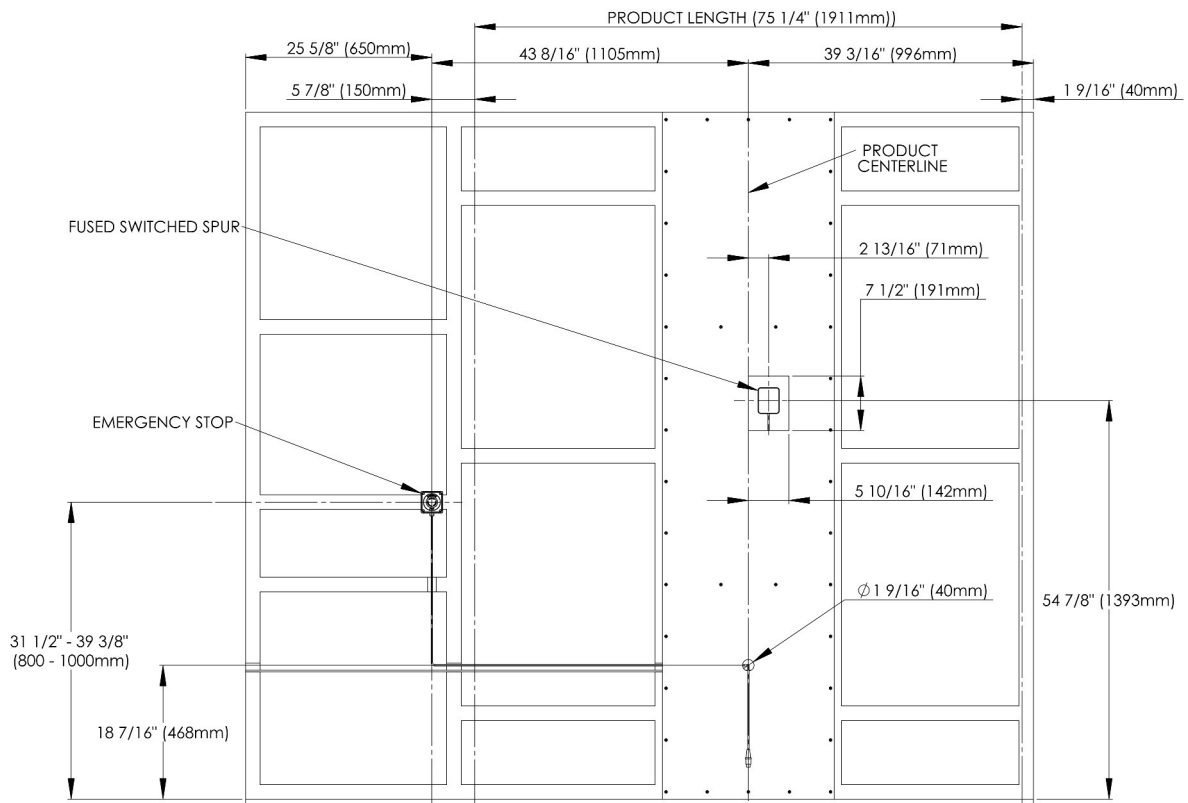

Fig 11.2 Emergency stop & switch, waterproof, flex outlet
- The provided emergency stop must be fitted at the position shown in Fig 11.2.
- Provision needs to be made to allow the cable to be traced in through the wooden frame and remain hidden behind the dry wall/plasterboard. At least 11 13/16" (300 mm) of cable should come through the marine plywood at the position shown in Fig 11.2.
- A switched, waterproof flex outlet is required for hard wiring the product. This outlet must be located in the position shown in Fig 11.2. The outlet cannot be any larger than 7 1/2" (191 mm) tall or 5 5/8" (142 mm) wide and must be flush or subflush to the level of the marine plywood once fitted.
- The Emergency Stop has been fitted at the position shown in Fig 11.2. The cable has been hidden in the wall and at least 11 13/16" (300 mm) of cable is coming out of the wall.
- The switched, waterproof flex outlet has been fitted in the position shown in Fig 11.2, is no larger than the stated dimensions and flush or sub-flush with the wall.